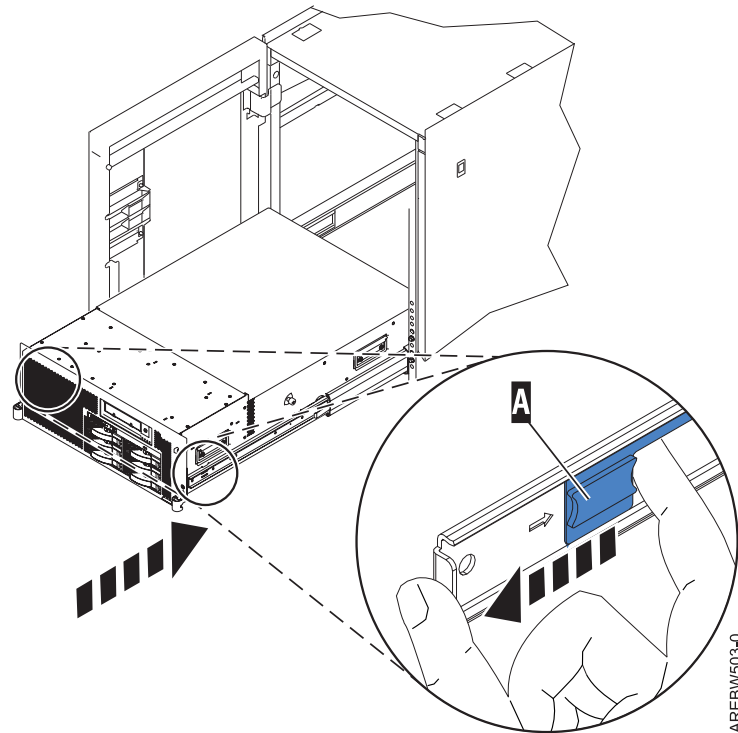

Figure 29. Inner rail extended
10. Simultaneously press the safety latches and push the system unit into the rack until it locks as shown in Figure 29 on page 35.